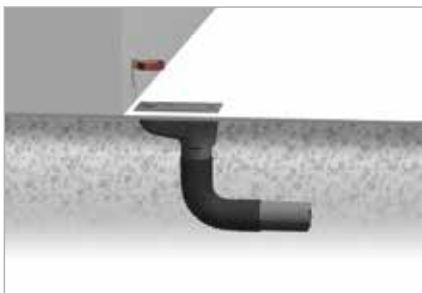

Fig. 34
6.1 Drainage to the sewage system. Install a standard sedimentation tank in the ground, under the downpipe. Join its bottom outlet with a flexible elbow connected to the underground sewer pipes (**Fig. 34**).